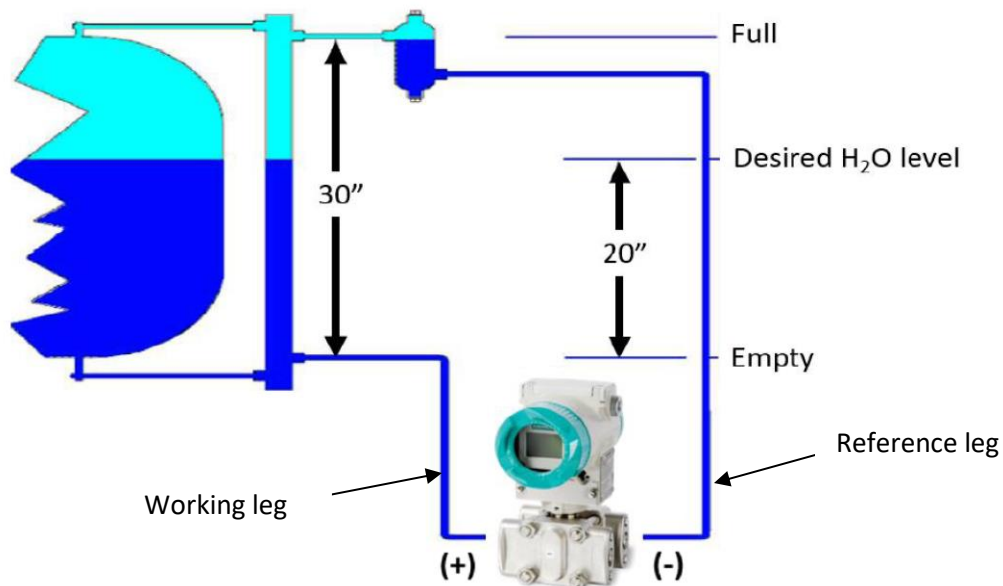

Figure 1: Example Piping Setup
1) The value of parameter 3 corresponds to the example in Figure 1. This value should reflect the distance between the two taps in the actual application. If the reference leg is tapped into the (-) side of the transmitter this value should be negative. If the reference leg is tapped into the (+) side of the transmitter this value should be positive. The value of parameter 18 corresponds to the example in Figure 1. This value should reflect the distance between the two taps in the actual application.